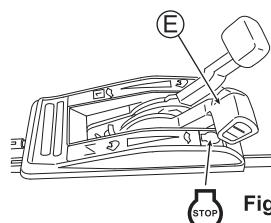

Fig. 13
2. Set the throttle lever (E) to "STOP". (See Fig. 13)